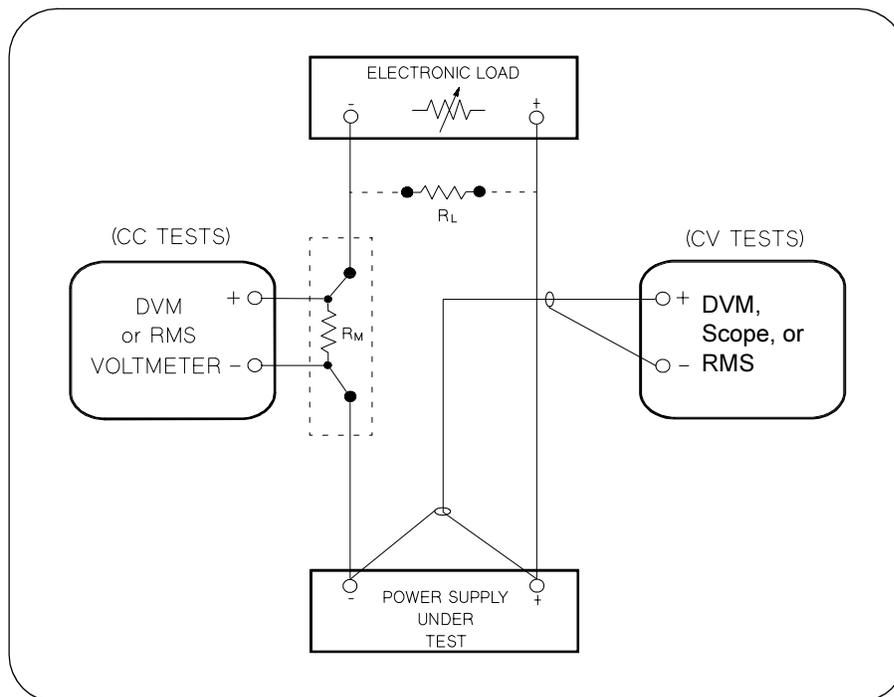

Figure A-1 Performance Verification Test Setup
Most tests are performed at the front terminals as shown in Figure A-1. Measure the dc voltage directly at the (+) and (-) terminals on the front panel.
To eliminate output current measurement error caused by the voltage drops in the leads and connections, connect the current monitoring resistor between the (-) output terminal and the load as a four-terminal device. Connect the current-monitoring leads inside the load-lead connections directly at the monitoring points on the resistor element (see R_M in Figure A-1).
- 1 Turn off the power supply and connect a digital voltmeter between the (+) and (-) terminals of the output to be tested as shown in Figure A-1.
- 1 Turn off the power supply and connect a digital voltmeter between the (+) and (-) terminals of the output as shown in Figure A-1.
- 4 Operate the electronic load in open mode (input off). Record the output voltage reading on the digital voltmeter again. The difference between the digital voltmeter readings in steps (3) and (4) is the CV load regulation. The difference of the readings should be within the limit of (5 mV)* or (9 mV)**.
- 1** Turn off the power supply and connect a digital voltmeter between the (+) and (-) terminals of the output to be tested as shown in Figure A-1.
- 6** Adjust the transformer to high line voltage (127 Vac for nominal 115 Vac, 110 Vac for nominal 100 Vac, or 253 Vac for nominal 230 Vac). Record the voltage reading on the digital voltmeter. The difference between the digital voltmeter readings in steps (5) and (6) is the CV line regulation. The difference of the readings should be within the limit of (5 mV)* or (9 mV)**.
- 1 Turn off the power supply and connect the output to be tested as shown in Figure A-1 to an oscilloscope (ac coupled) between (+) and (-) terminals. Set the oscilloscope to AC mode and bandwidth limit to 20 MHz. Connect a resistive load (13.5Ω)[‡] to the terminal at (B) as shown above.
- 1 Turn off the power supply and connect the output to be tested as shown in Figure A-1 with an oscilloscope. Operate the electronic load in constant current mode.
- 1 Turn off the power supply and connect a 0.01 Ω current monitoring resistor (R_{M1}) across the output to be tested and a digital voltmeter across the current monitoring resistor (R_{M1}) as shown in Figure A-1.